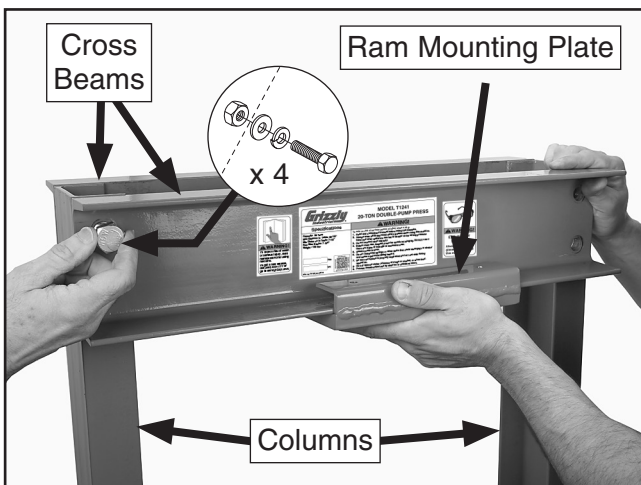

Figure 4. Securing cross beams to columns with ram mounting plate positioned on bottom edge.
3. With help from an assistant, secure cross beams to top of columns (see **Figure 4**) with (8) M16-2 x 35 hex bolts, 16mm flat washers, 16mm lock washers, and M16-2 hex nuts. When installing second cross beam, position ram mounting plate over bottom edges of cross beams, as shown in **Step 4**.